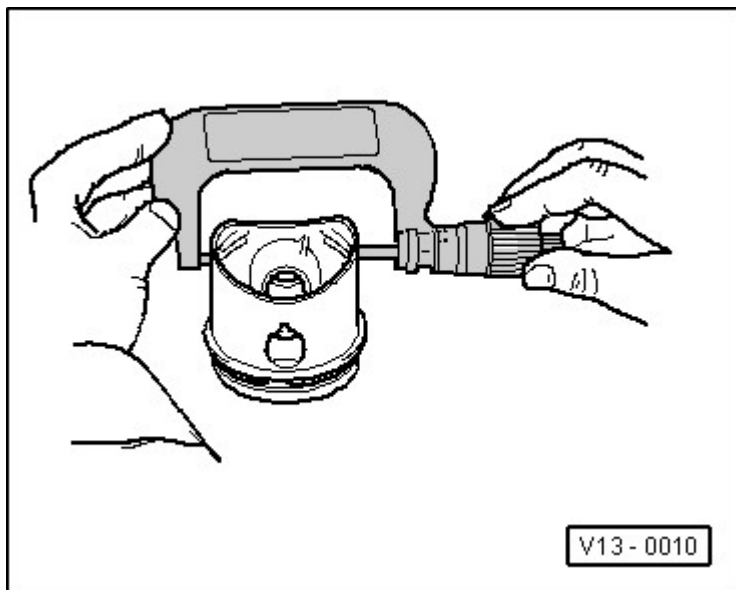

Fig. 16: Checking Piston
- Checking, refer to **Fig. 16**